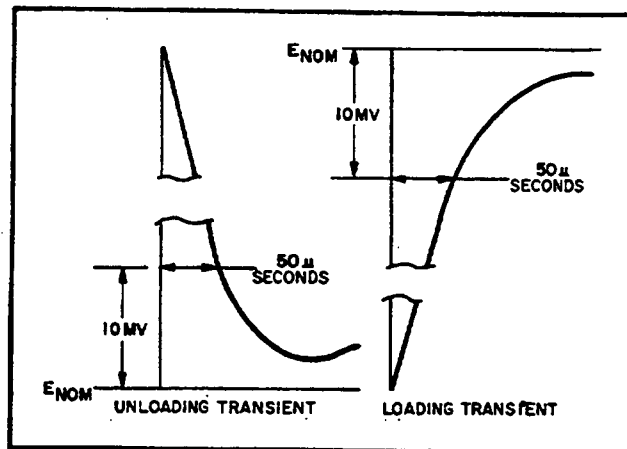

Figure 5-7. Transient Recovery Time, Waveforms
h. Starting from the major graticule division representative of time zero, count to the right 50μ sec and vertically 10mV. Recovery should be within these tolerances as illustrated in Figure 5-7.